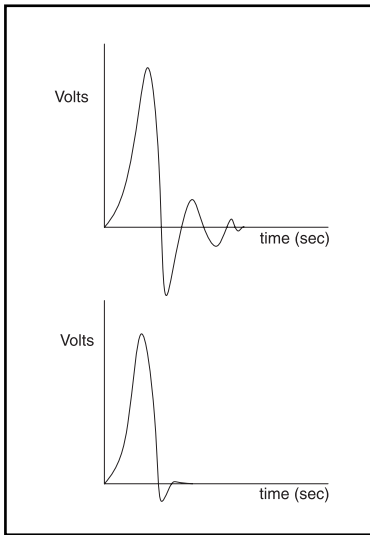

Figure 2: Transient Response
3) The higher order crossover you go, the more insertion loss (power dissipated or lost in the crossover circuit) and ringing in the impulse response you get. (This can be a benefit if you are trying to design a speaker that will meet a certain power handling criteria, and the drivers you have been dealt just don't cut it.) In addition, component tolerances tend to add up resulting in tough to maintain final tolerances in production. First (1st ) order filters have the ideal transient response. Good transient response means that an impulse of sound arrives at your ears at a single instant in time (see Figure 2). Poor transient response means the sound is smeared, delayed, or repeated at slightly different times.